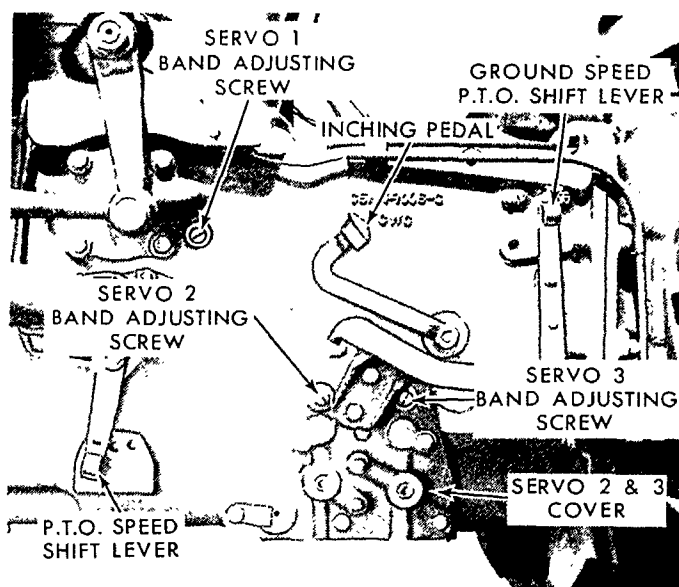
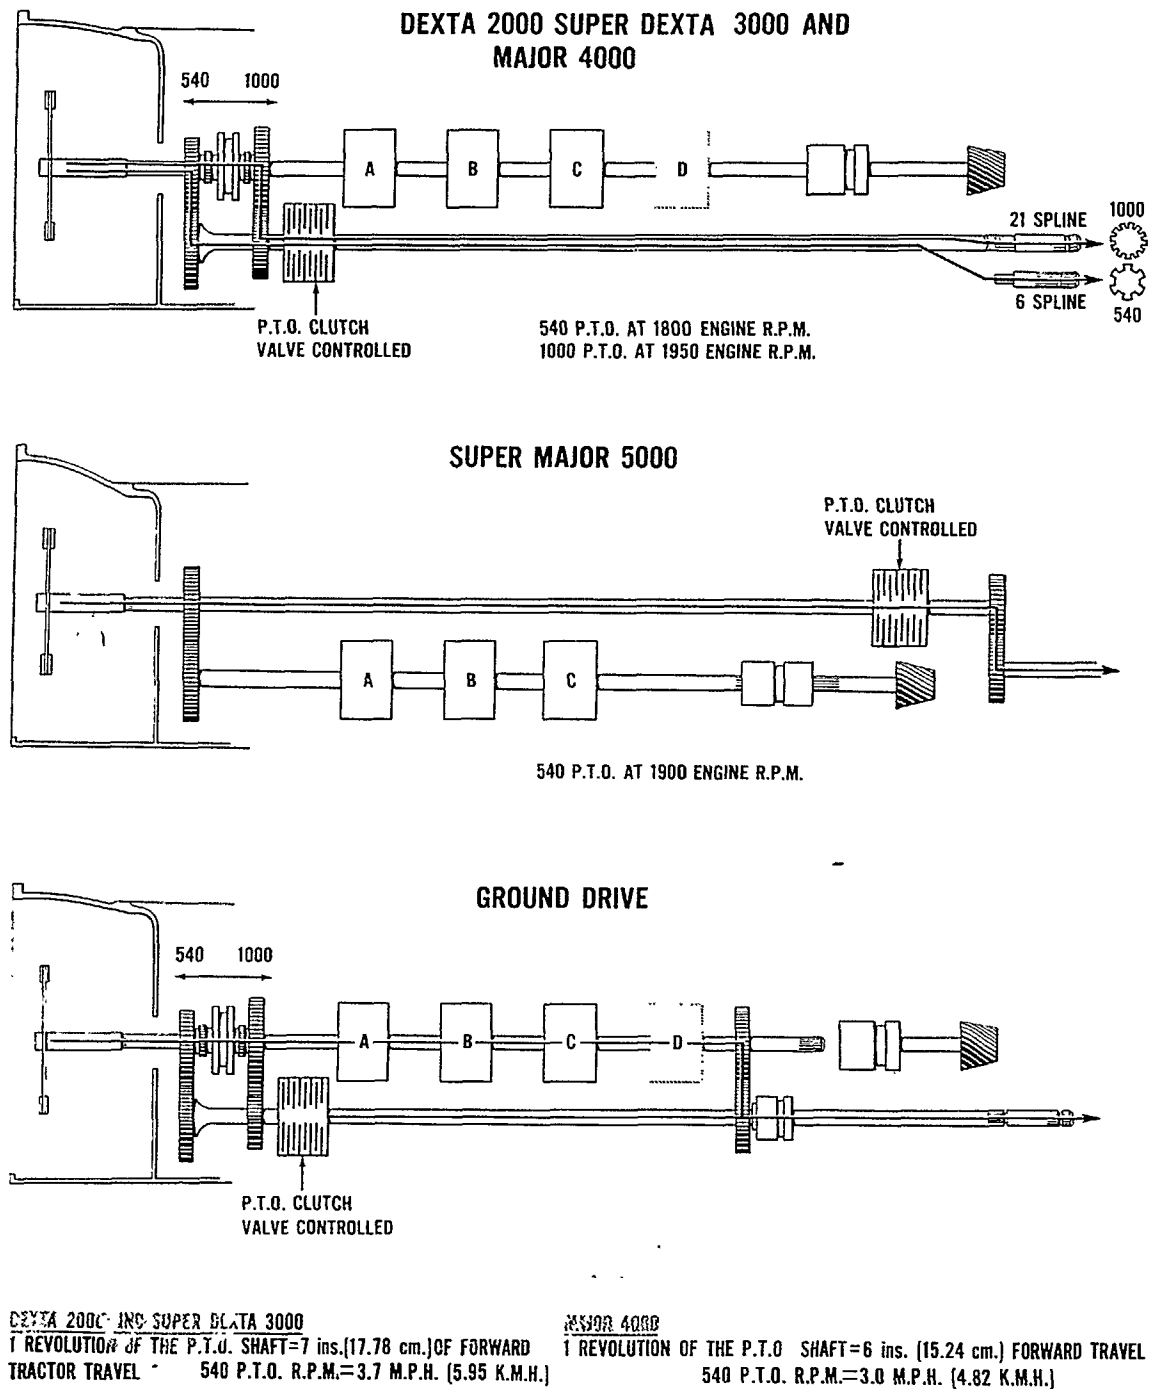

Figure 21
Figure 22
In the deluxe transmissions, either 540 or 1000 rpm A.S.A.E. standard P.T.O. speeds can be obtained at 1800 (540) and 1950 (1000) engine rpm. This is accomplished by a sliding coupling arrangement on the transmission input shaft, as shown in Figure 1. The P.T.O. speed shift lever, when in the forward position as illustrated in Figure 21, selects the 540 rpm speed by sliding the shifter collar rearward on the shaft which causes the rear input
shaft gear to drive the P.T.O. clutch housing. The 1000 rpm speed is obtained by moving the lever to the rear and selecting the forward set of gears. A neutral, or middle, position disengages the gears and should be used when operating the tractor without P.T.O. equipment, Figure 21. P.T.O. power flows are illustrated in Figure 22. This is not available in the Super Major 5000.
Figure 21 shows the ground speed P.T.O. shift lever in the disengaged position.